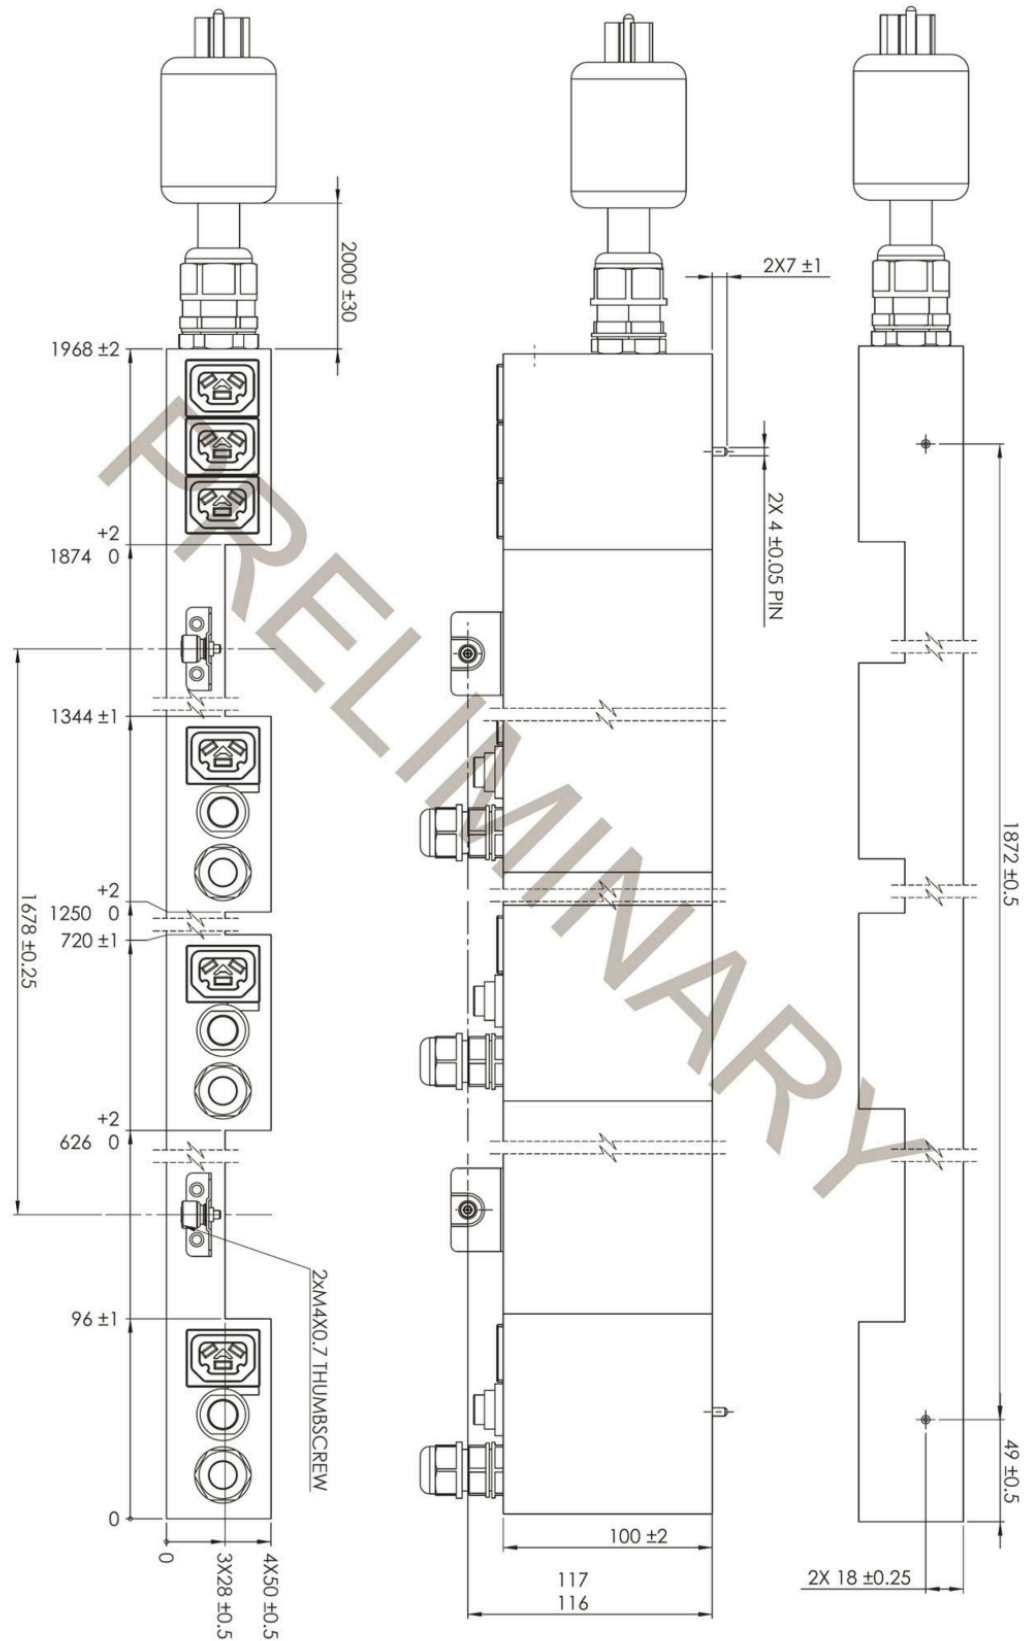
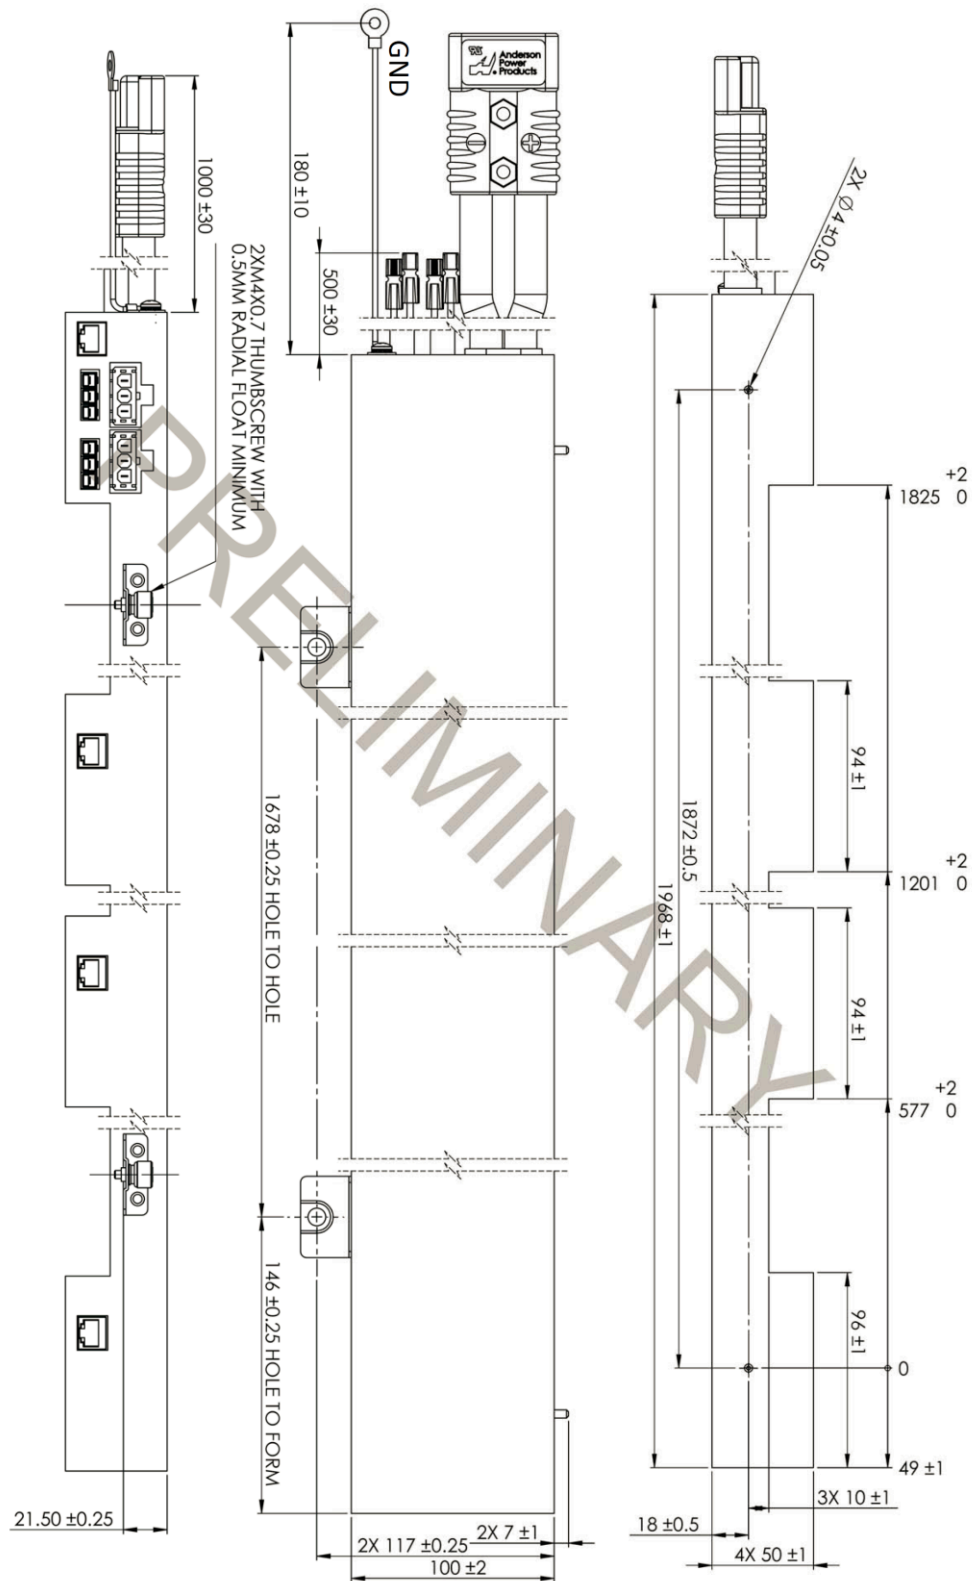

Figure 6 AC gPDU
Figure 7 DC gPDU
The cable is AWG 14, UL 1015, green color, 170mm in length. The two rings crimped on both sides are from KST, part number RVL2-5 (or equivalent). See also Figure 7 for the mechanical drawing of the DC gPDU.
Refer to Figure 6 for detailed dimensions.
- Extracts of the complete mechanical drawings are included in Figure 6 and Figure 7.